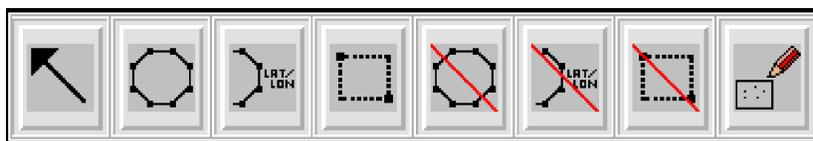

Fig. 8 — Coverage definition buttons
The coverage definition buttons (Fig. 8) allow a user to define coverage areas in four ways: (1) using the mouse to pick points and define a polygon; (2) entering a series of latitude/longitude (lat/lon) points to define a polygon; (3) using the mouse to draw a “rubber-band” box around a coverage; and (4) picking individual CAC segments, where one CAC segment is equivalent to 2" × 2" of paper chart (Lohrenz et al. 1993). Note that when a button’s icon is light gray, it is not currently available for use.